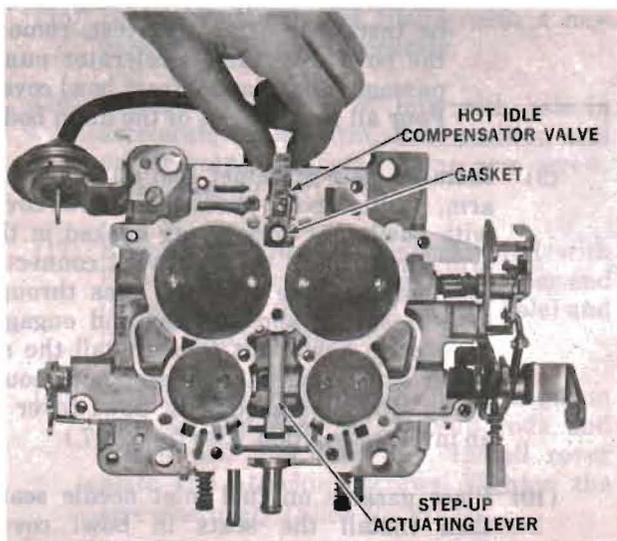

Figure 13. Removing or Installing the Hot Idle Compensator Valve
- (1) Install idle mixture screws and springs in the throttle body. The tapered portion must be straight and smooth to insure having correct idle mixture control. Do not use a screwdriver but turn screws lightly against their seats with fingers. Back off the number of turns counted during disassembly. Do not install limiter caps at this time.
- (2) Install the hot-idle compensator valve gasket in recess of throttle body; then install the hot-idle compensator valve. (See figure 13.)